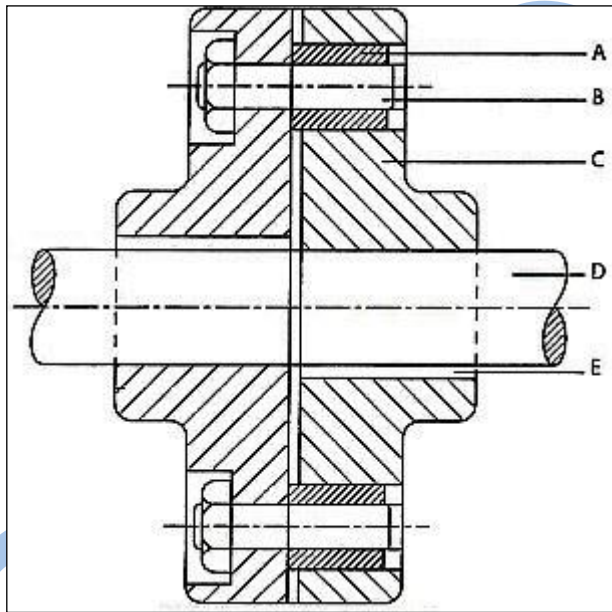

FIGURE 1
2.1 Figure 1 below shows the diagram of a coupling.